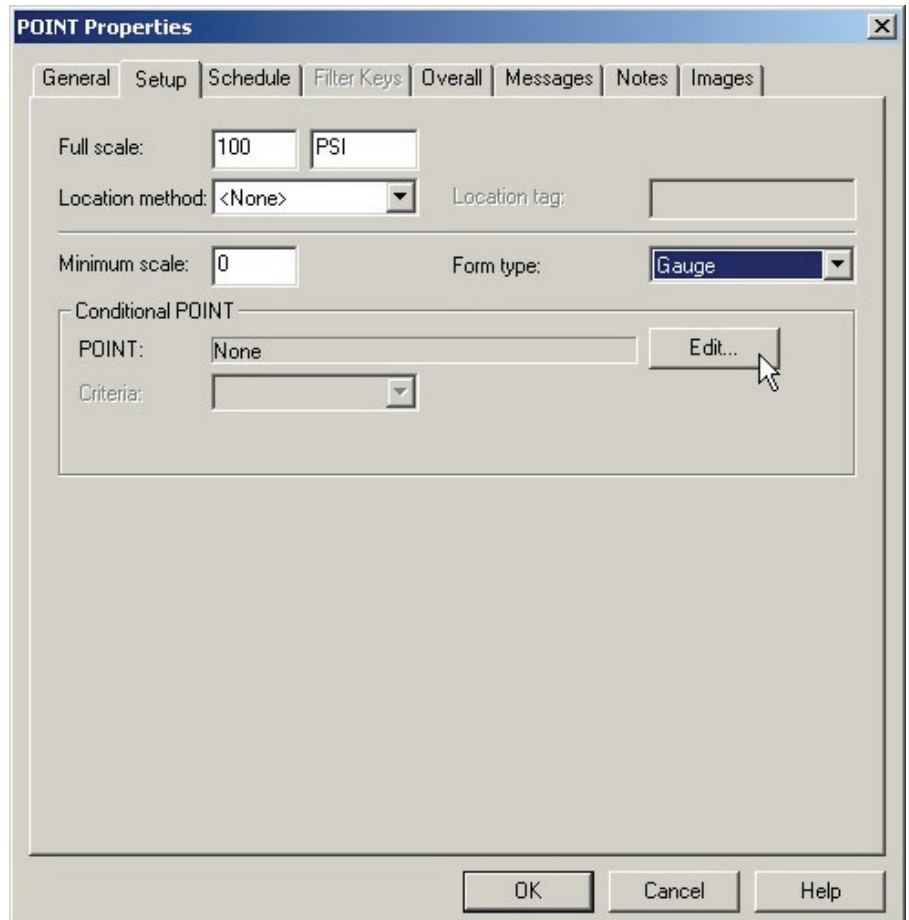

Figure 4. First conditional POINT properties.
- Select the **Setup** tab (→fig. 4).